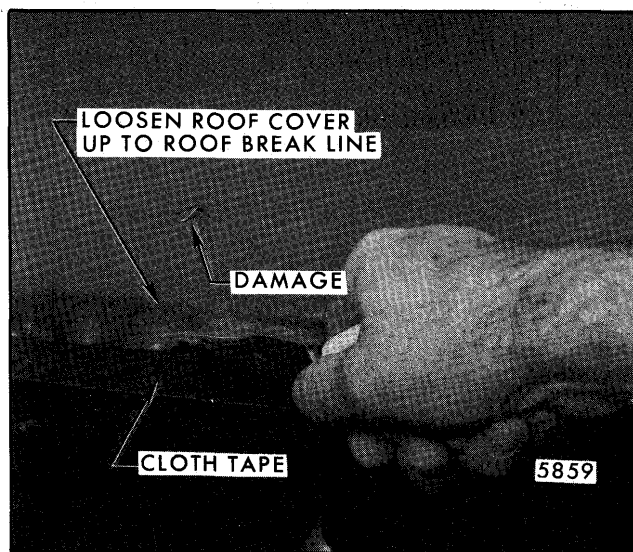

Fig. 8-16-Loosening Edge of Roof Cover Foam Pad
6. Using pliers or similar tool, carefully loosen edge of roof cover up to roof break line (Fig. 8-16).